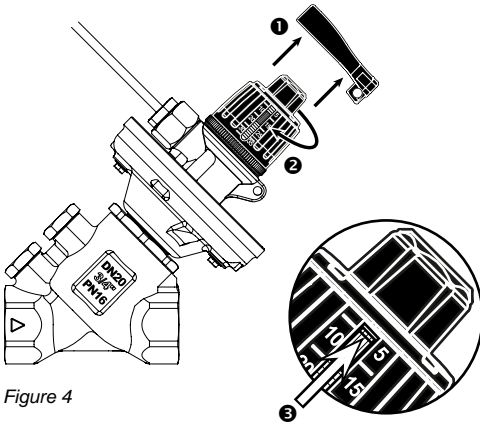

Figure 4
To change the setting, please remove the black lock ring (1) and turn the black top part by hand (2) as shown in figure 4 (do not use more than 1 Nm force). Turn the black top part clockwise to increase and counter-clockwise to decrease the setting. The setting can be seen directly on the valve because the scale is printed on the top part (which is turned) and the setting is defined by the groove in the brass part inside the top part (3).